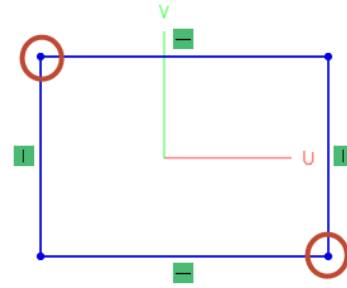

Figure 113
- Left-click in the top-left corner of the origin, as seen in **Figure 113**, to begin the Rectangle.